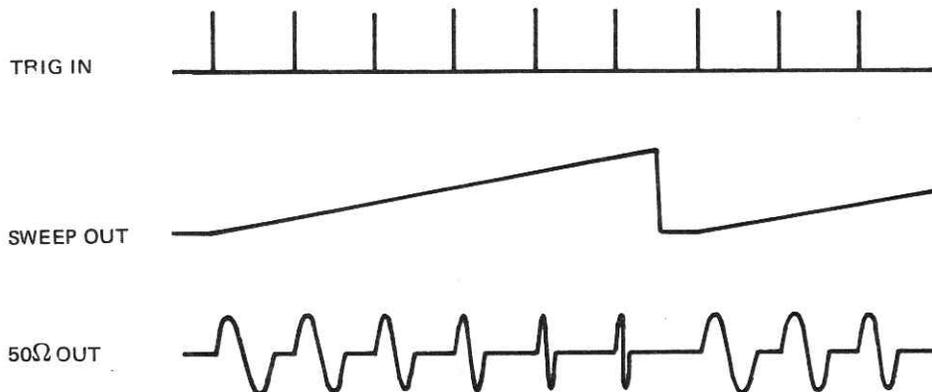

Figure 2-13. A Special Case of Sweep Burst Operation
6. If the trigger rate is faster than the sweep rate, several sweep tone bursts can be generated during each sweep. If the trigger signal becomes a narrow pulse, an interesting signal can be generated as shown in Figure 2-13.